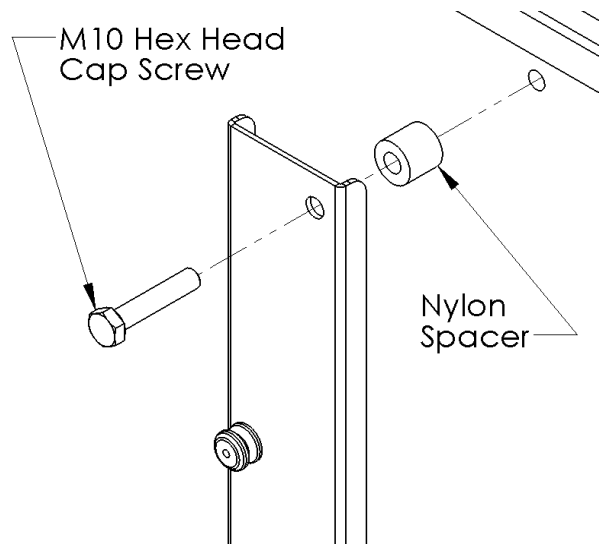
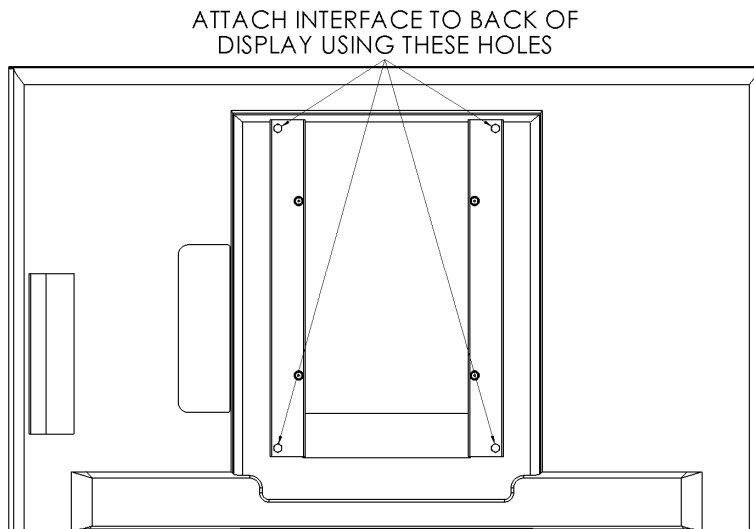

Figure 4
Figure 5
2. **Bracket Installation:** Attach interface to back of the display using the M10 Hex Head Bolts and nylons spacers. Use the set of spacer that provide the best depth for your display. (see Figure 4 & Figure 5). Do not over tighten screws.